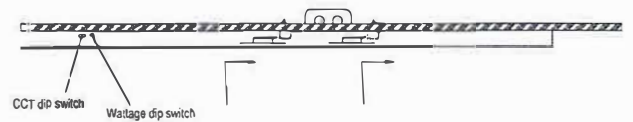

fig.4
Step 4: Selecting CCT & wattage and locking the fixture (fig.4)